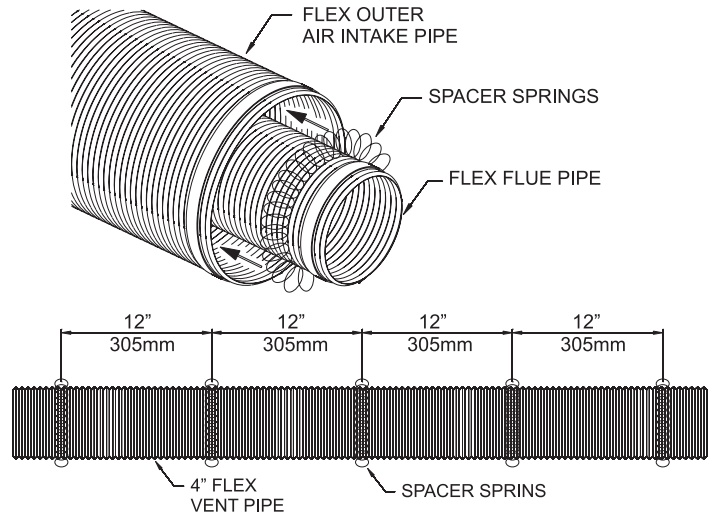

Figure 61
9. Install the spring spacers provided around the 4 inch diameter flex flue at 1 foot intervals, then slide the flue pipe with spacers into the 7 inch diameter outer flex vent pipe. Make sure the springs are spaced evenly starting at 12 inches from the fireplace collar. **See Figure 61.**